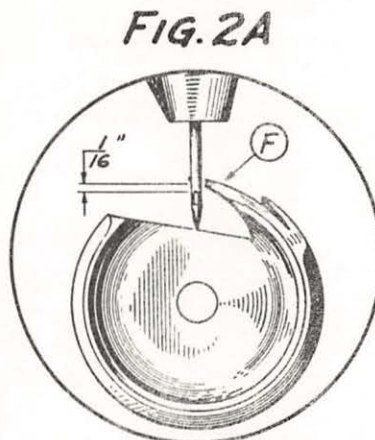
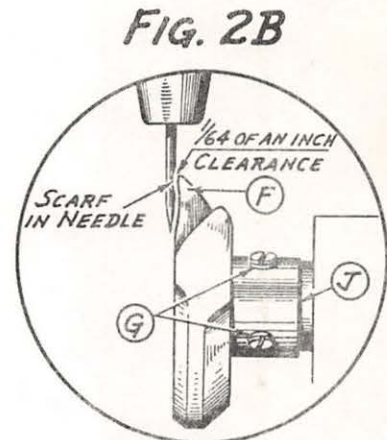

FIG. 2A
FIG. 2B
At this time the point of Hook (F) Fig. 2 should be at the Vertical Center Line of the Needle and $\frac{1}{16}$ of an inch above the Needle Eye as shown in enlarged view Fig. 2A and at the center of the scarf in the Needle as shown below in Fig. 2B.
Loosen 3 Screws (G) Fig. 3 and turn Hook (F) to Left or Right on Shaft (H) the desired amount. Now check for $\frac{1}{64}$ of an inch clearance between scarf in Needle and point of Hook (F) as shown in Fig. 2B.
To adjust lateral position of Hook and Yoke, loosen Set Screw (I) Fig. 3 and move entire Yoke Assembly in or out on Shaft (H) making certain that hub of Hook shoulders firmly against the Yoke at point (J) Figs. 2B and 3. Tighten 3 Screws (G) and Set Screw (I) Fig. 3 securely making certain that you do not bind Hook and Shaft by too much pressure at (J).